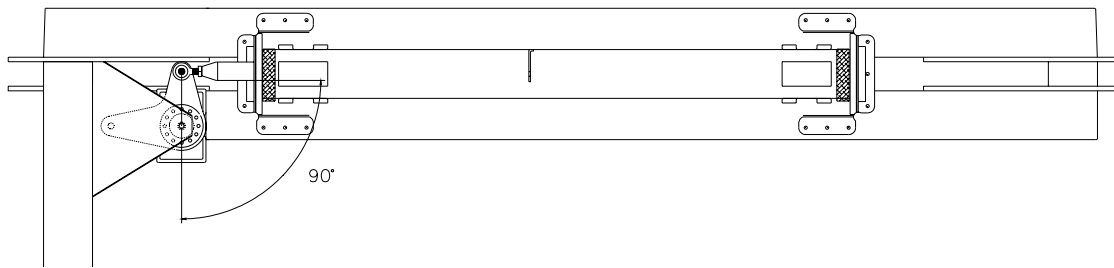

Figure 20.5.3
3) Adjust the push-pull tube until CC-47-2 is 90° to the control column. Figure 20.5.3.